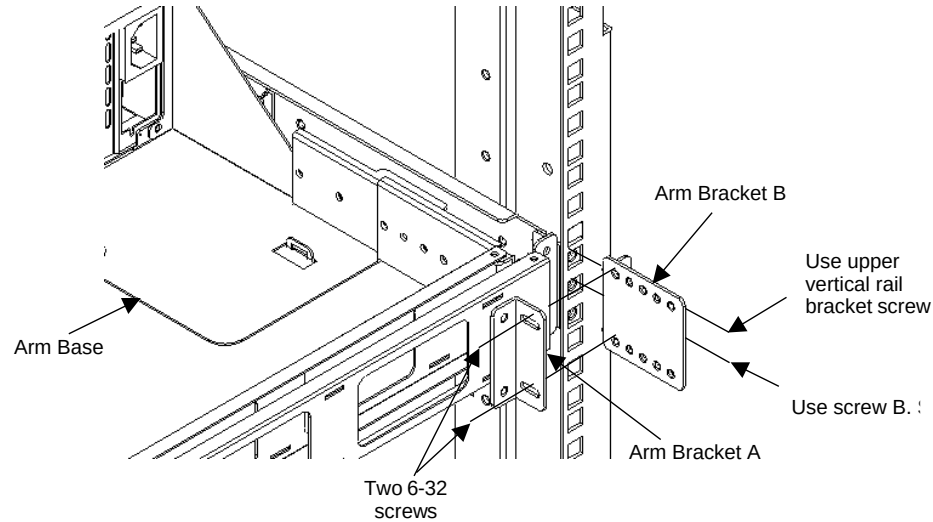

Figure 2-23. Installing Arm Bracket A and Arm Bracket B
4. Arm Bracket A has four holes, two of which are elongated. Using the elongated holes in Arm Bracket A, attach Arm Bracket A onto Arm Bracket B using two 6-32 screws. Refer to Figure 2-23.